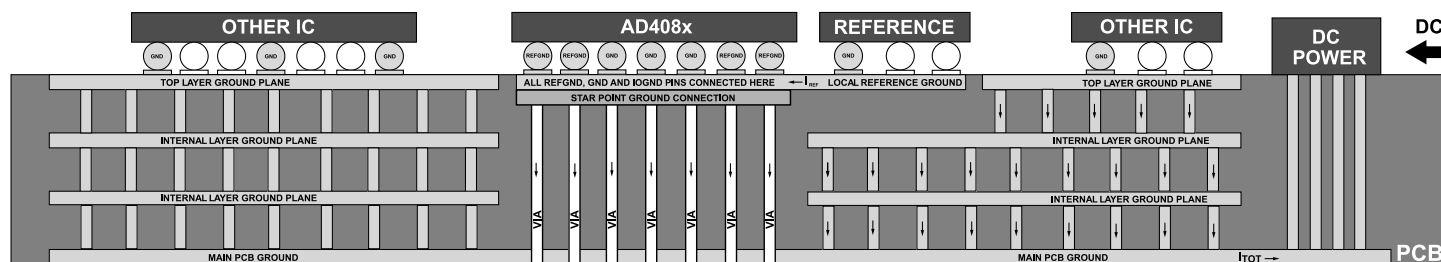

Figure 110. Recommended PCB Ground Planes Layout
- ▶ See Figure 110 for the side view cross-section of the PCB board showing the ground planes distribution . Note that Figure 110 only shows the ground planes but does not including the signal tracks.